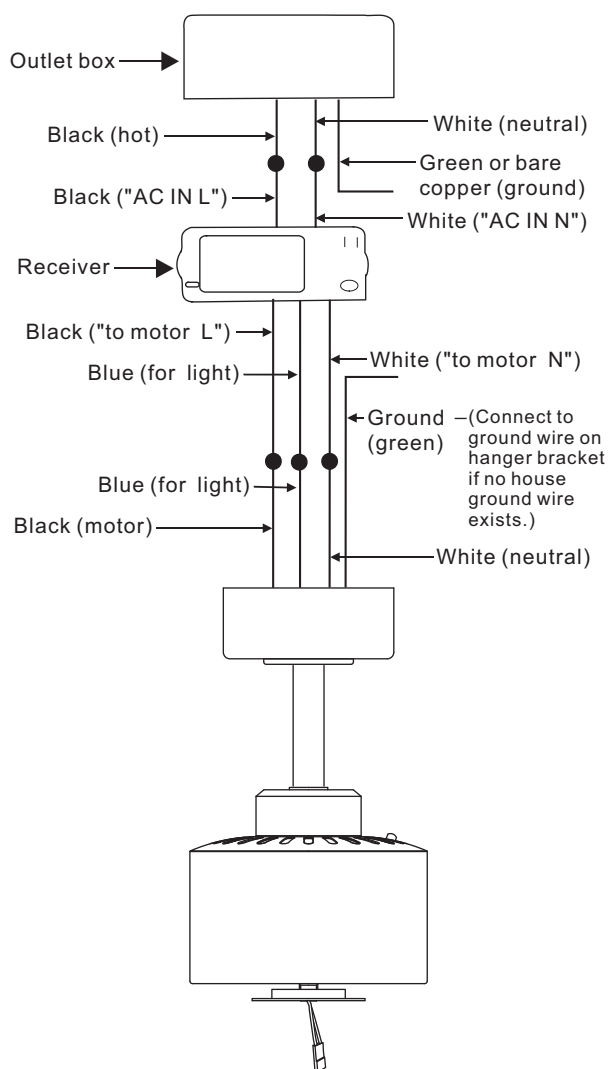

Figure 11
Step 2. (Figure 11) Motor to Receiver Electrical Connections: Connect the black wire from the fan to black wire marked "TO MOTOR L". Connect the white wire from the fan to the white wire marked "TO MOTOR N" from the receiver. Connect the blue wire from the fan to the blue wire marked "For Light" from the receiver. Secure the wire connections with the plastic wire nuts provided.
Step 3. (Figure 11) Receiver to House Supply Wires Electrical Connections: Connect the black (hot) wire from the ceiling to the black wire marked "AC in L" from the receiver. Connect the white (neutral) wire from the ceiling to the white wire marked "AC in N" from the Receiver. Secure the wire connections with the plastic wire nuts provided.
Step 4. (Figure 11) If your outlet box has a ground wire (green or bare copper) connect it to the fan ground wires; otherwise connect the hanging bracket ground wire to the mounting bracket. Secure the wire connection with a plastic nut provided. After connecting the wires, spread them apart so that the green and white wires are on one side of the outlet box and black and blue wires are on the other side. Carefully tuck the wire connections up into the outlet box.